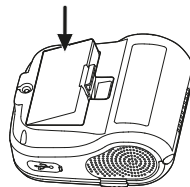
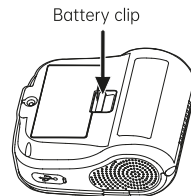

Figure 1
Figure 2
- (1) When installing or removing the battery, make sure the printer is powered off.
- (2) As shown in Figure 1 below, insert the battery into the battery slot behind the printer in the direction of the arrow. Press down on the battery until the card snaps into place, as shown in Figure 2 below
- (3) as shown in Figure 2 below, when removing the battery, open the battery latch, using the opposite steps to install the battery.